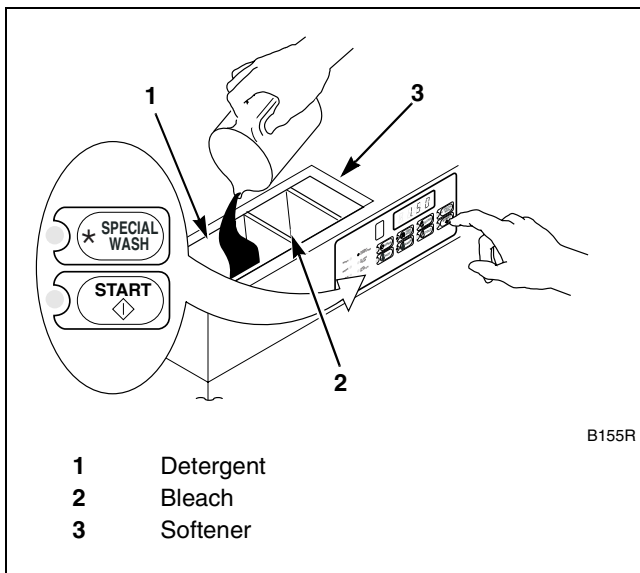

Figure 14
8. Add detergent to container 1 and softener to container 3. Press the START key. Refer to *Figure 14*.